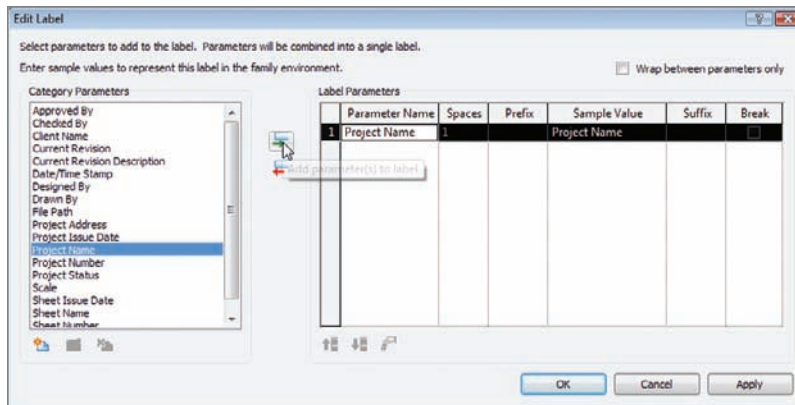

FIGURE 14.28 Adding the project name to the label
1. Select Project Name, and click the Add Parameter(s) to Label button, as shown in Figure 14.28.